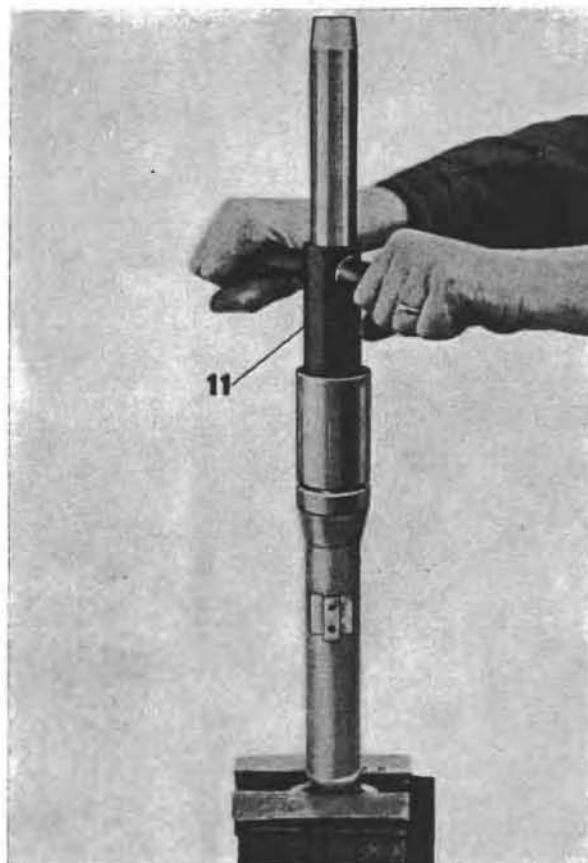

Fig. 104
- after pressing in seal ring, fit spring housing, by means of special wrench No. 12912600 (see 11 on Fig. 104).